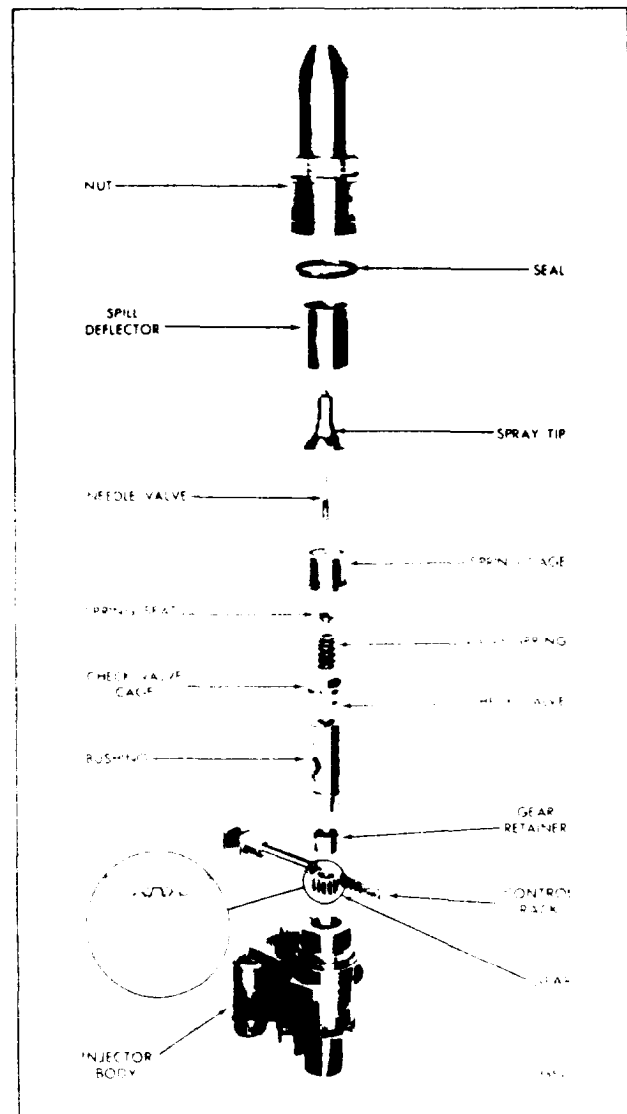

Fig. 36 - Injector Rack, Gear, Spray Tip and Valve Assembly Details and Relative Location of Parts
6. Refer to Fig. 36 and remove the spill deflector. Then lift the bushing straight out of the injector body.
Refer to Fig. 36 and note the drill spot marks on the control rack and gear. Then proceed as follows:
2. Place the gear in the injector body so that the marked tooth is engaged between the two marked teeth on the rack (Fig. 36).
Refer to Fig. 36 and assemble the parts as follows: